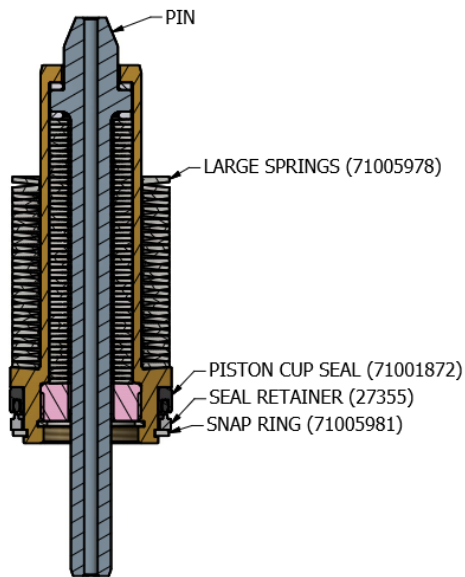

Figure 8 - Piston Assembly
- 9.2 Carefully pull out the piston assembly and the large spring stack (see Figure 8).
base of the valve, the seal retainer ridged edge should face the cup seal spring (see Figure 8).
- 13.3 If needed, re-install piston with large springs (see Figure 8 - Piston Assembly, Figure 9 – Spring Orientation).